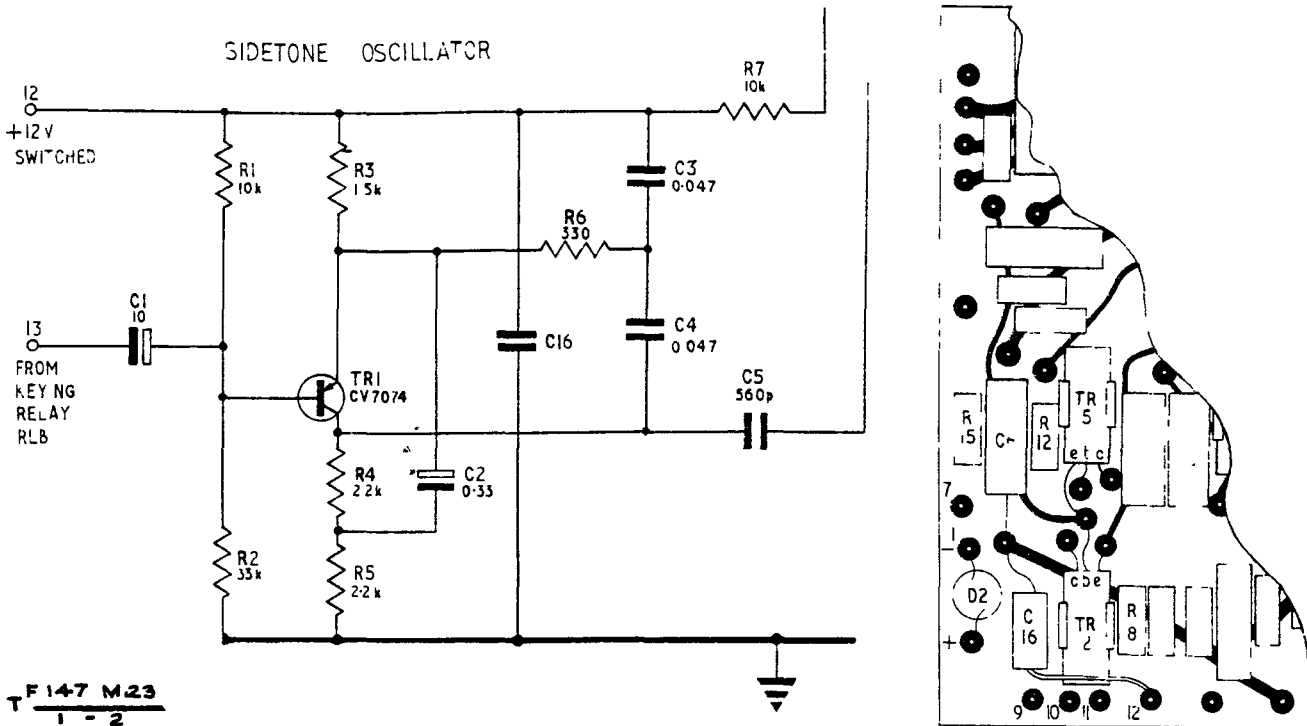

Fig 2 - Board 13, modification detail
k. Solder the capacitor, new circuit designation 13C16, between capacitor C6 and pin 12 on the Panel, electronic circuit (see Fig 2).
Insert new C16 as shown in fig 2
Insert new C16 as shown in fig 2.